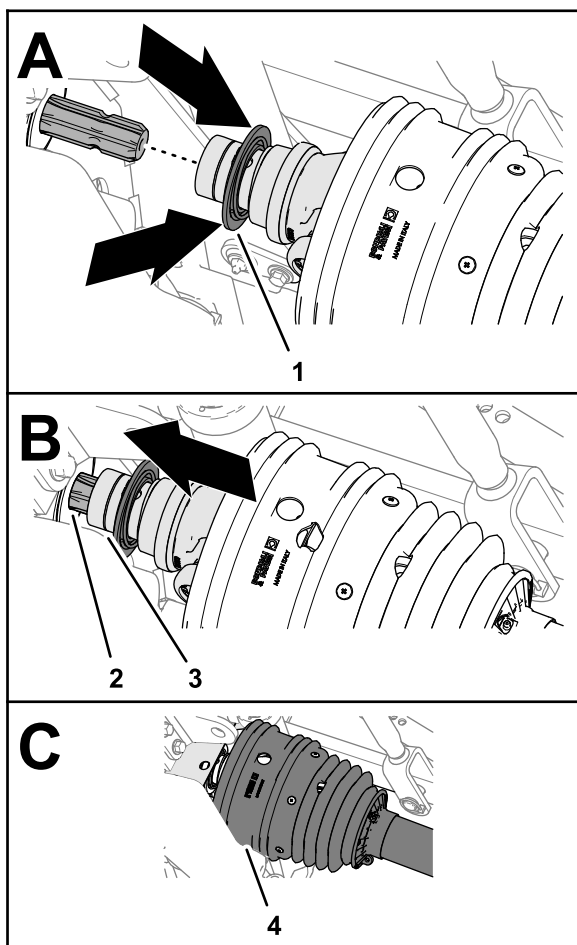

Figure 27
3. Pull back the lock collar of the driveshaft yoke (Figure 27).
4. While pulling back the lock collar, push the driveshaft yoke forward and slip the socket of the yoke over the splines of the PTO output shaft (Figure 27).
6. Ensure that the shield is positioned over the driveshaft yoke (Figure 27).